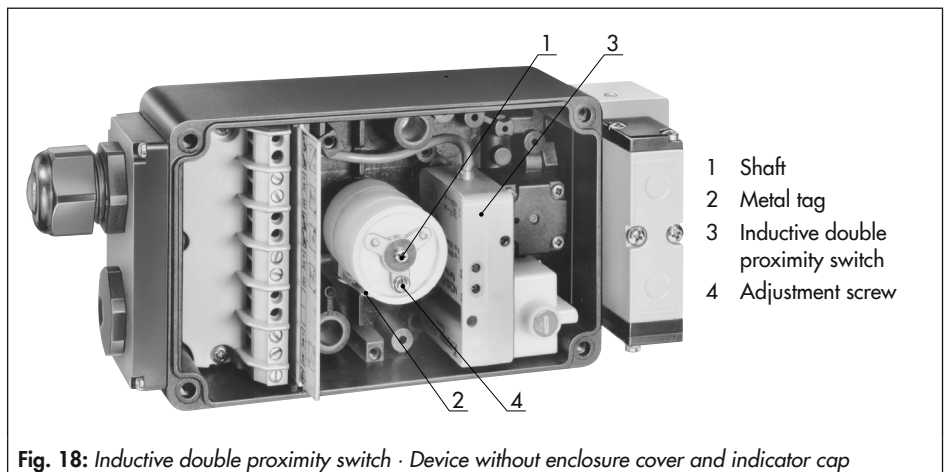

Fig. 18: Inductive double proximity switch · Device without enclosure cover and indicator cap
The shaft (1) of devices with an inductive double proximity switch (3) has an adjustable metal tag (2) with 70° or 90° opening angle (see Fig. 18).